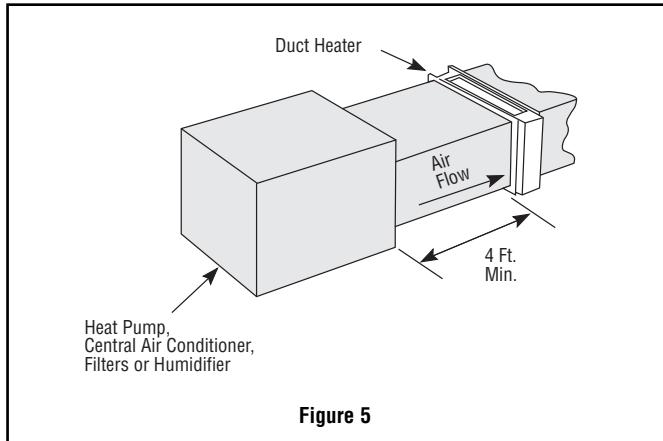

Figure 5
1. Installation near heat pump, central air conditioner, filters or humidifier. (Refer to Figure 5).